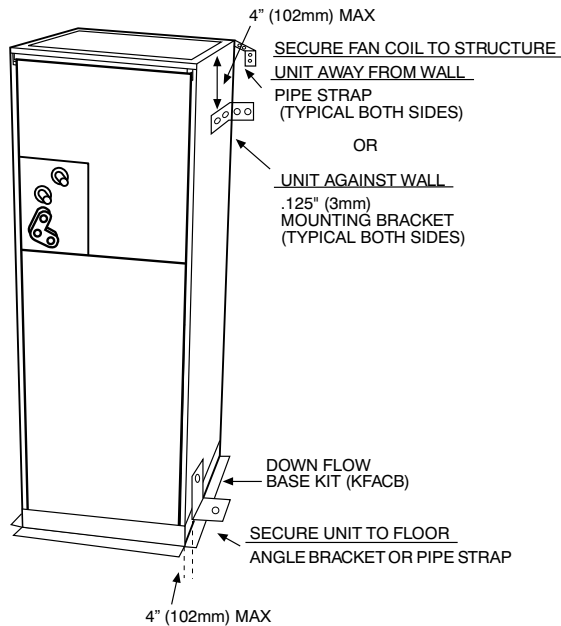

Fig. 8 – Mobile Home or Manufactured Housing Applications
- b. If fan coil is against wall, secure fan coil to wall stud using 1/8" (3mm) wide right-angle brackets. Attach brackets to fan coil using No. 10 self tapping screws and to wall stud using 5/16" lag screws (refer to Fig. 8).